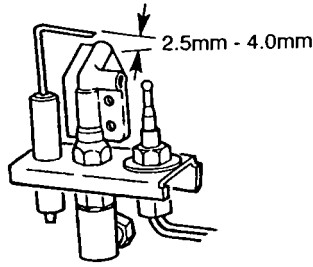

Fig. 7 Spark Gap
- (i) The spark gap is as in Fig. 7.